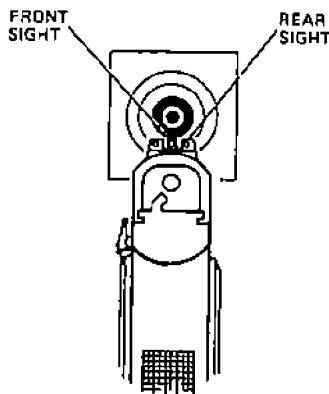

FIGURE 3-AIMING
3. Grasp pistol by grip and, keeping your finger outside the trigger guard, take aim. Aim by aligning target with front and rear sights. (See Figure 3). After identifying your target and seeing that it is clear to shoot, focus on the front sight. Be sure you have a safe backstop. **THINK!** What you will **HIT** if you **MISS** the target.